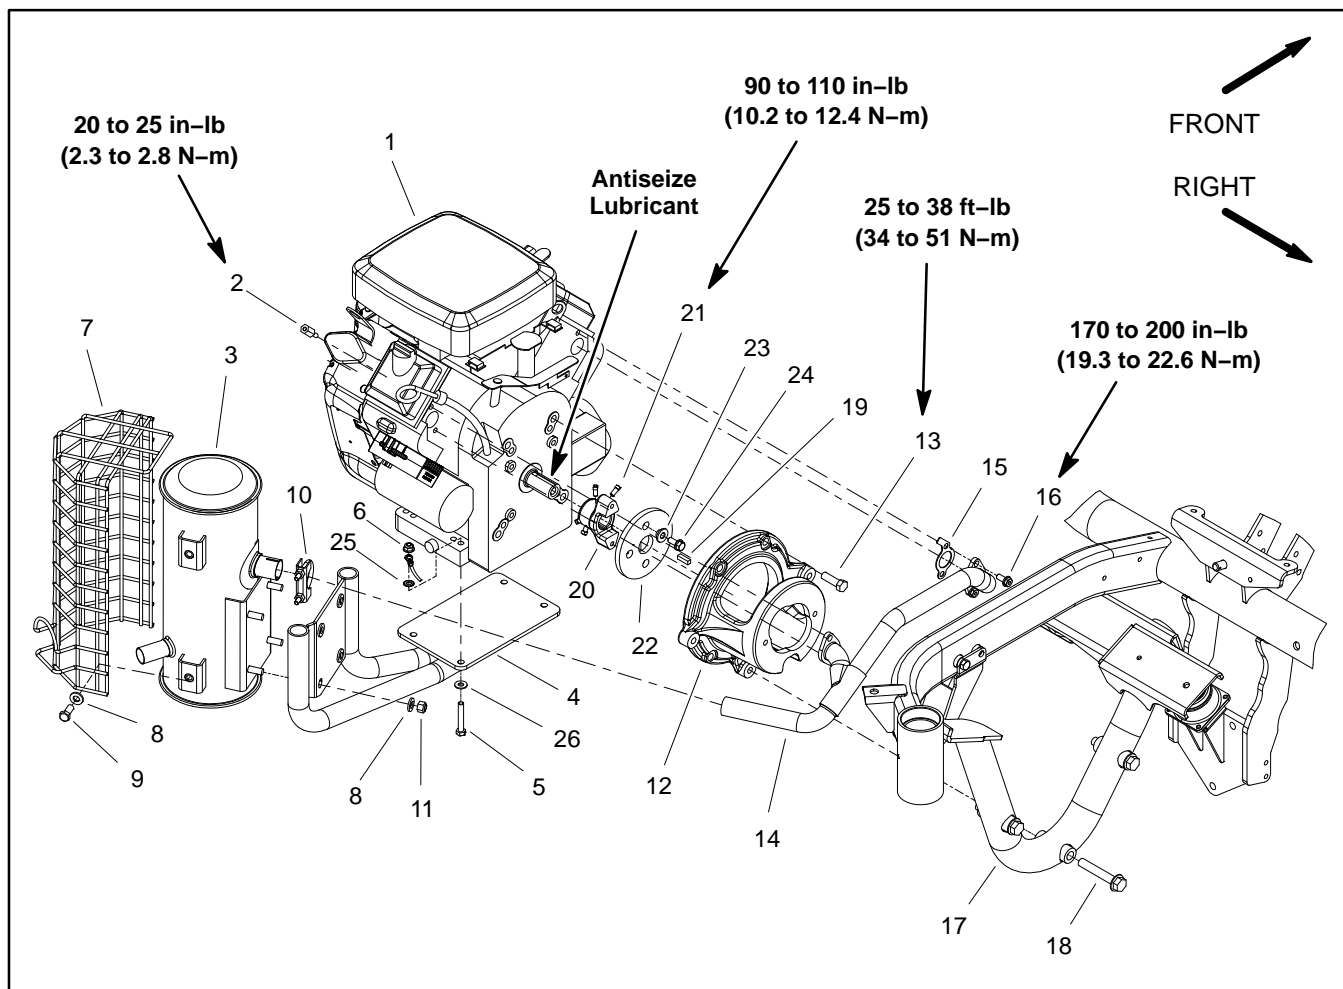
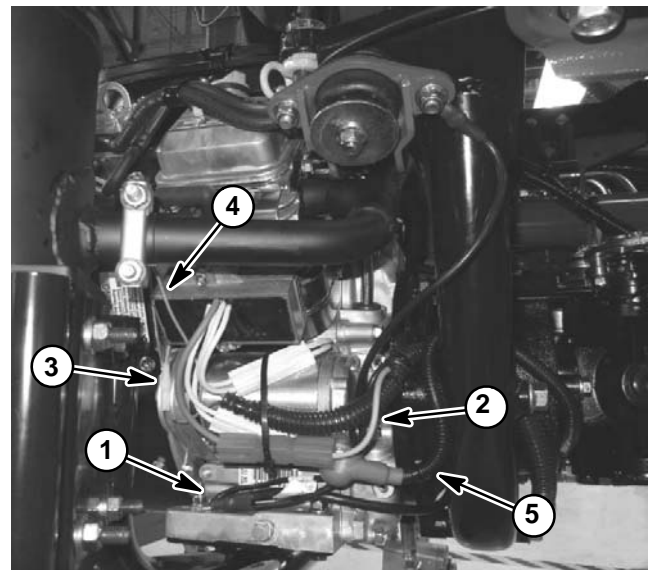

Figure 9
Figure 11
### Engine Removal (Fig. 9)
6. Loosen and remove cap screw (item 5), flat washer (item 26), lock washer (item 25) and flange nut (item 6) that secure wire harness ground connectors to engine assembly (Fig. 11).
A. Alternator (from regulator/rectifier) (Fig. 11)
B. Fuel solenoid (Fig. 11)
C. Magneto (Fig. 11)
E. Starter motor (Fig. 11)
8. Loosen the two (2) square head screws (item 21) that secure the engine hub (item 20) to the engine crankshaft.
10. Remove four (4) cap screws (item 13) that secure engine assembly to pump mount (item 12).
11. Carefully move the engine assembly away from the pump mount to slide the engine crankshaft out of the engine hub (item 20). Once the crankshaft has cleared the hub, remove the engine from the machine.
12. Locate and retrieve square key (item 19) from engine crankshaft.
13. If necessary, remove exhaust system components from engine using Figure 9 as a guide.
## Engine Installation (Fig. 9)
2. If exhaust system components were removed from engine, attach removed components using Figure 9 as a guide.
3. Apply antiseize lubricant to engine crankshaft. Position square key (item 19) to crankshaft.
4. Align the engine hub (item 20) with the engine crankshaft and square key.
5. While supporting the engine to prevent damaging the pump coupling, carefully move the engine so crankshaft slides into the engine hub (item 20) and toward the pump mount. Once the engine contacts the pump mount, align mounting holes and secure engine to pump mount with four (4) cap screws (item 13). Torque cap screws from **25 to 38 ft-lb (34 to 51 N-m)**.
6. Make sure that rubber coupling (item 22) is not distorted. Secure engine hub to engine crankshaft with two (2) square head screws (item 21). Torque screws from **90 to 110 in-lb (10.2 to 12.4 N-m)**.
7. Secure wire harness ground connector to engine assembly with cap screw (item 5), flat washer (item 26), lock washer (item 25) and flange nut (item 6) (Fig. 11). Make sure that lock washer is positioned between ground connector and engine flange to ensure ground connection to engine.